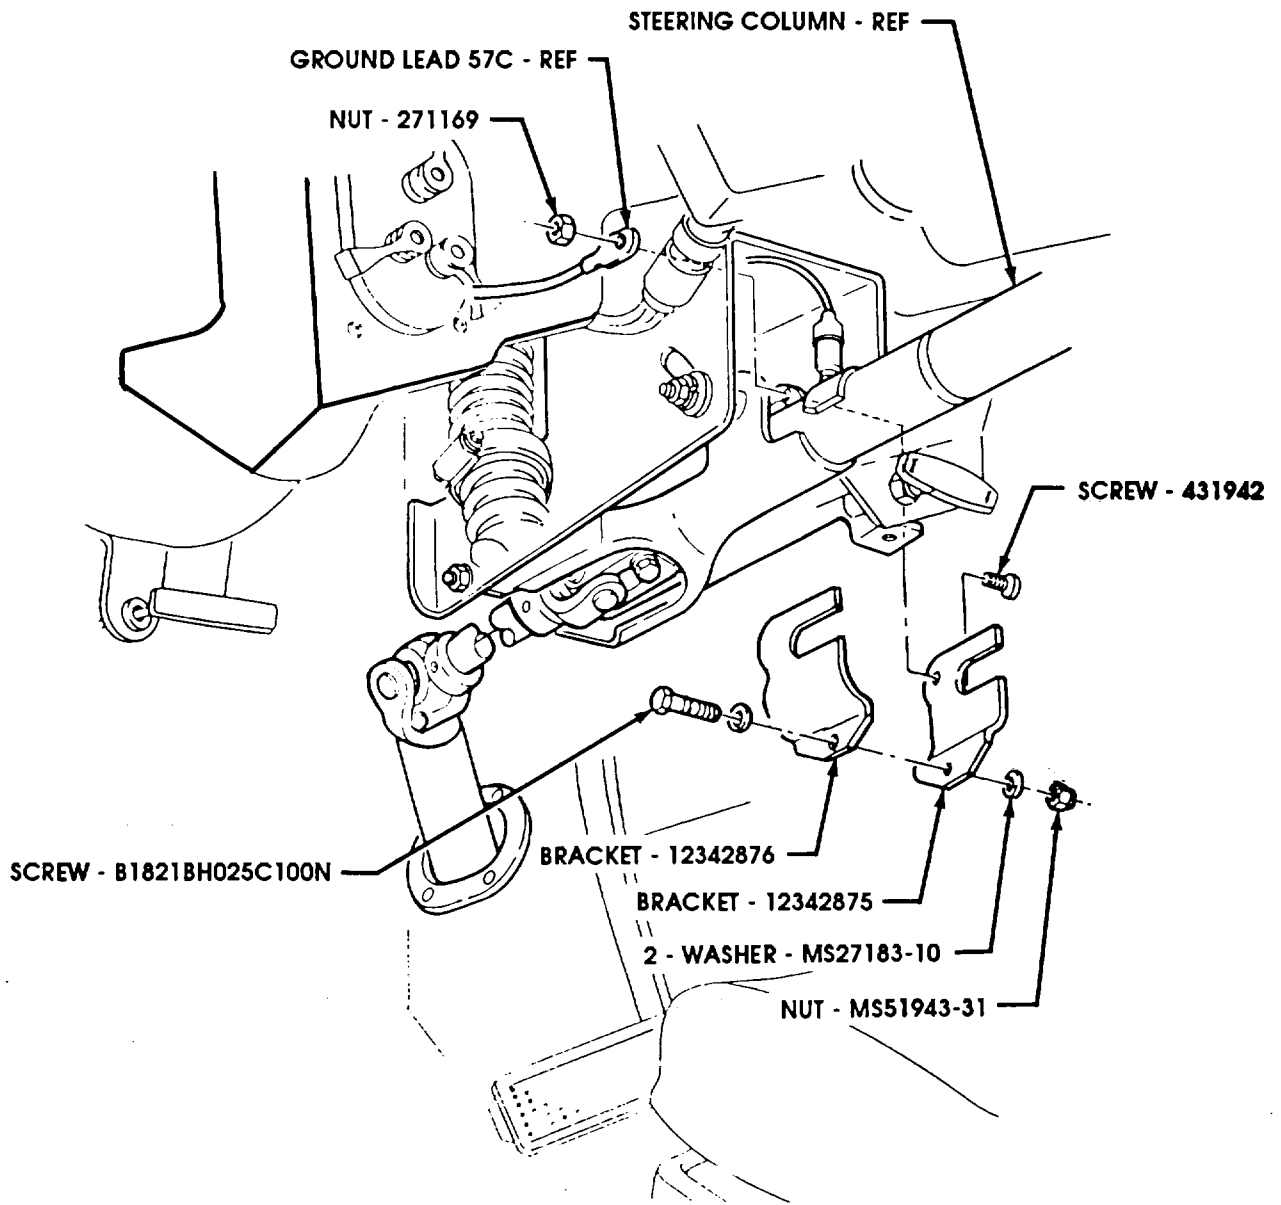

FIGURE 3
- (2) Secure ground lead 57C and 12342875 bracket to steering column with 431942 screw and 271169 nut as shown in figure 3. Do not tighten nut.
- (3) Secure 12342876 bracket to bracket (12342875) and steering column with B1821BH025C1OON screw, two MS27183-10 washers, and MS51943-31 nut as shown in figure 3. Tighten nut to 10 lb-ft (14 N•m).
- (4) Tighten nut (271169) installed in step "2" as shown in figure 3.